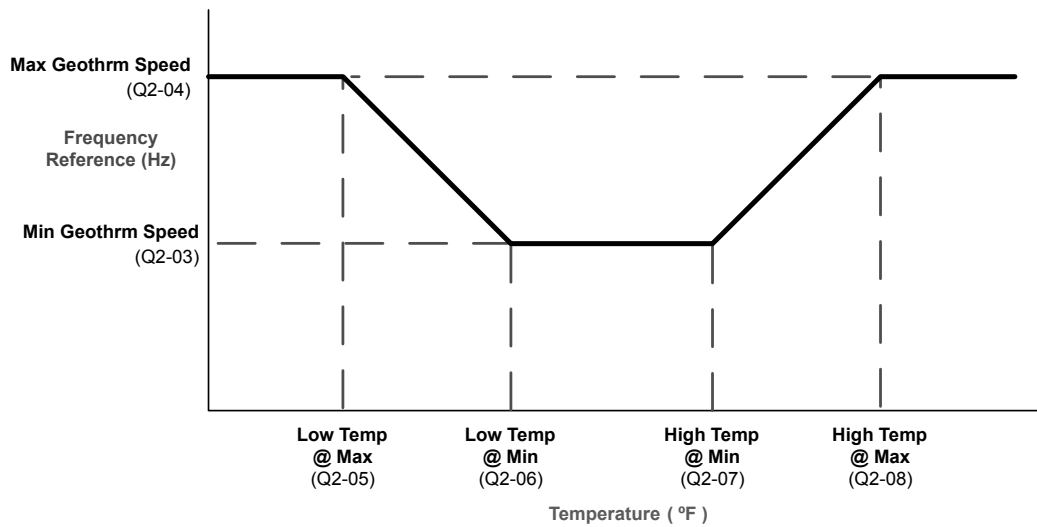

Figure 4.7 Normal Temperature Regulation
7. Set the pump speed-temperature characteristics in Q2-03 to Q2-08. This allows the drive to modulate the pump speed based on the analog input temperature feedback of the water. This will attempt to regulate the water temperature between the Q2-06 and Q2-07 settings. *Figure 4.7* shows normal operation.